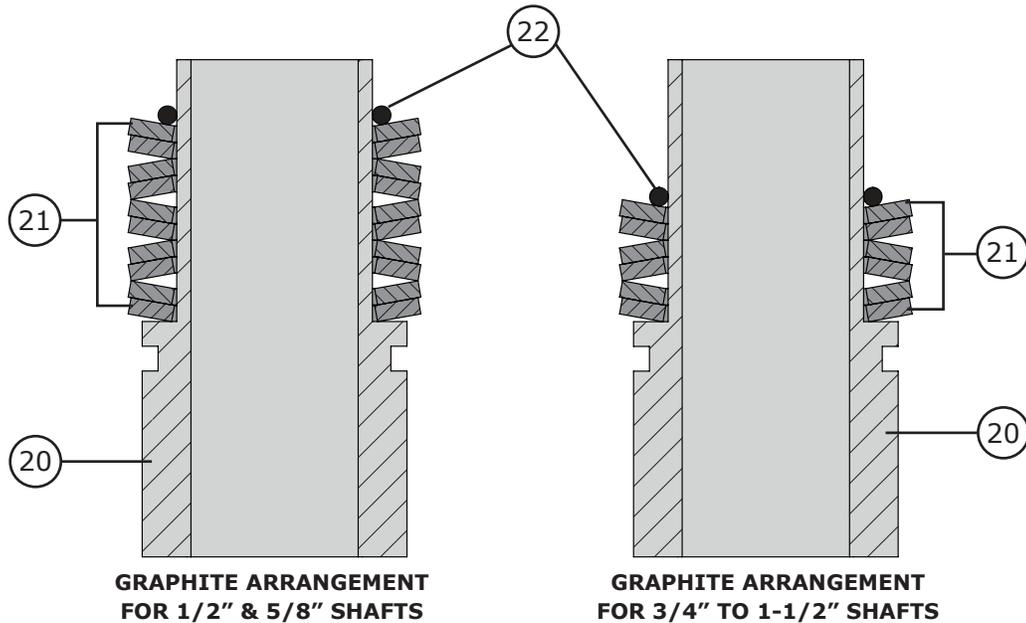

Figure 62 Live Loaded Spring Washer (Key 21) Arrangements
- 3 Install the spring washers (Key 21) onto the packing follower (Key 20) in the order and orientation shown in Figure 62. Secure the spring washers in place using the packing flange o-ring (Key 22).